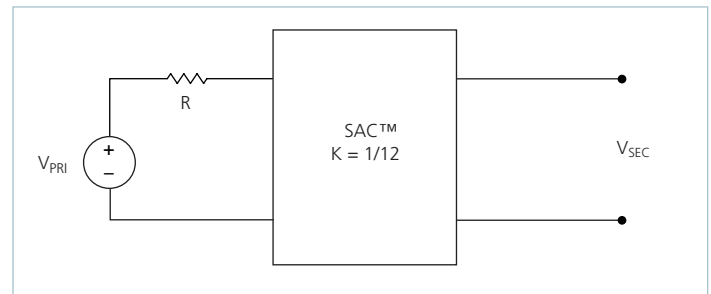

Figure 18 — K = 1/12 Sine Amplitude Converter™ with series primary resistor
The use of DC voltage transformation provides additional interesting attributes. Assuming that  $R_{SEC} = 0\Omega$  and  $I_Q = 0A$ , Eq. (3) now becomes Eq. (1) and is essentially load independent, resistor R is now placed in series with  $V_{PRI}$  as shown in Figure 18.
Assuming that  $R = 1\Omega$ , the effective R as seen from the secondary side is  $6.9m\Omega$ , with  $K = 1/12$  as shown in Figure 18.